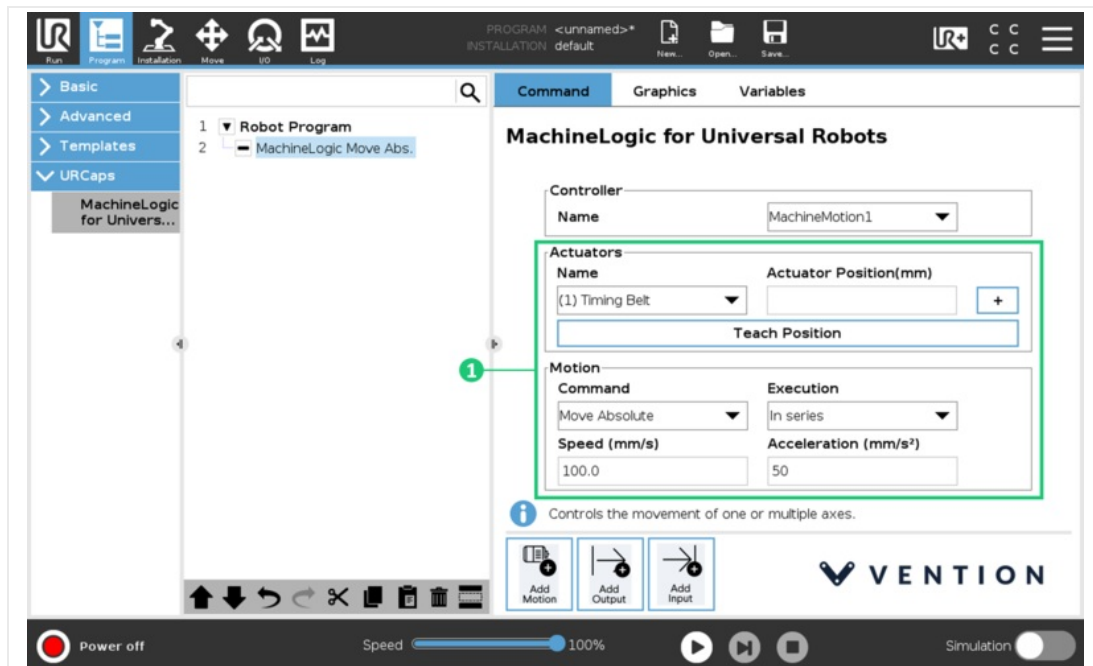

Figure 24: Prepare your motion command by filling out the necessary fields except Actuator Position.
4. Then, either enter a value in the Jog input, use the Move + and Move - buttons or press De-energize and physically move the axis to the desired position (see Figure 24).